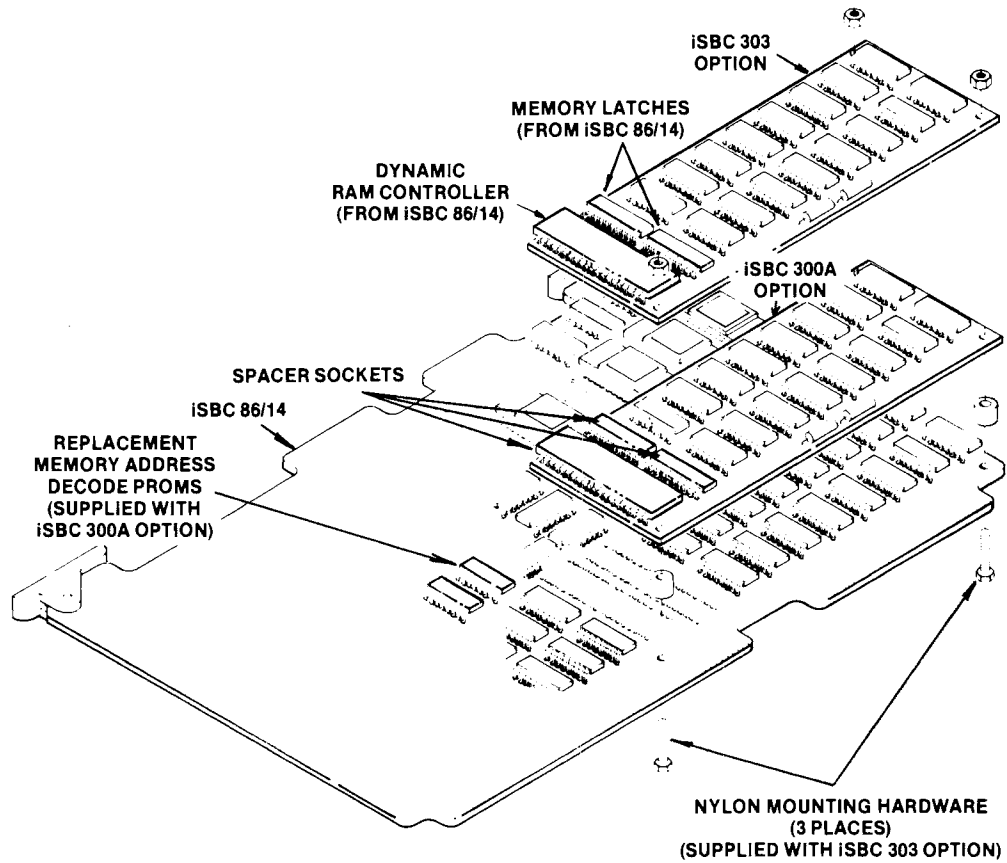

Figure 2-3. iSBC™ 303 Parity and iSBC™ 300A RAM Expansion Multimodule Board
10. Insert the iSBC 303 Parity board mating pins into socket A1 and other mating pins for the iSBC 300A board, orienting the board as shown in Figure 2-3.
12. Place a nylon spacer (use long spacers) between the iSBC 300A board and the iSBC 303 Parity board at one of the holes shown in Figure 2-3.